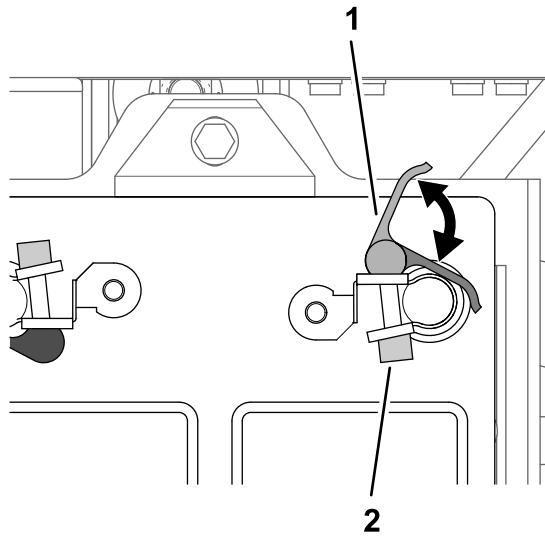

Figure 210
- Open the latch handle of the quick-connect clamp with the black handle (Figure 210).
- Close the latch handle of the quick-connect clamp (Figure 210).